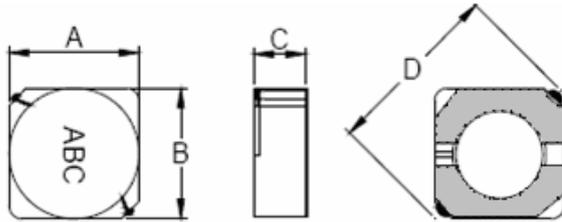
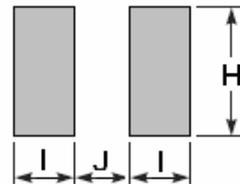

Fig. 4-1
Fig. 4-2
1) Dimensions and recommended PCB pattern for reflow soldering: See Fig.4-1, Fig.4-2 and Table 4-1.